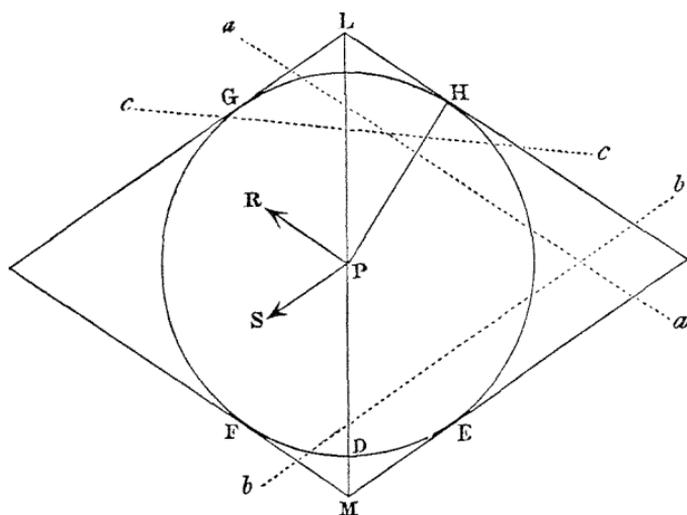

Fig. 1.
1. Let P (fig. 1) be the point where the traveller finds himself at fault, and let P D be a distance within which the path certainly lies; then the circle, E D F, somewhere cuts the path, and the traveller starting from P must first go to D, and then make the entire circuit, D E H F D, before he has exhausted his search. This distance of $P D + D E H F D = P D + 6 P D$ nearly, $= 7 P D$ altogether, which gives the length of road that the man must be prepared to travel over who can answer no other than the question A. Of course, P D may cut the path, but I am speaking of the *extreme* distance which the lost man may have to travel.